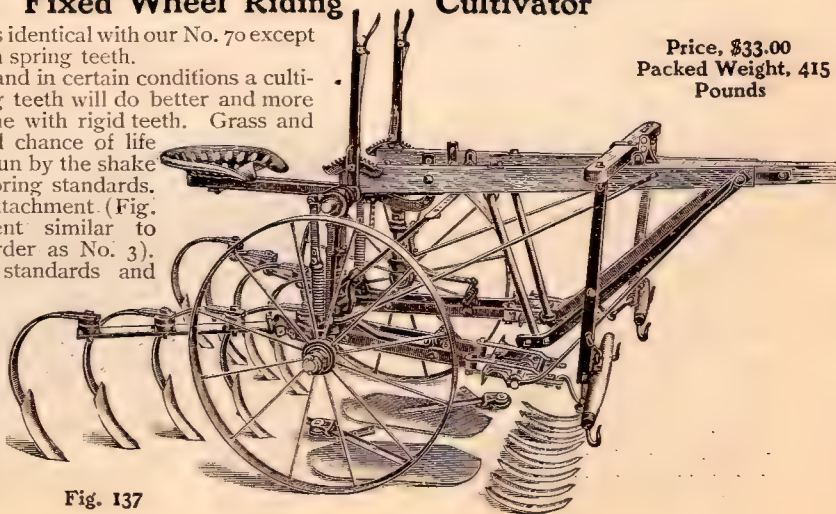

Fig. 137
**A Spring Tooth Attachment** may be quickly and easily applied as shown in Fig. 137. **Price per set of 8 (including points) \$6.00.**